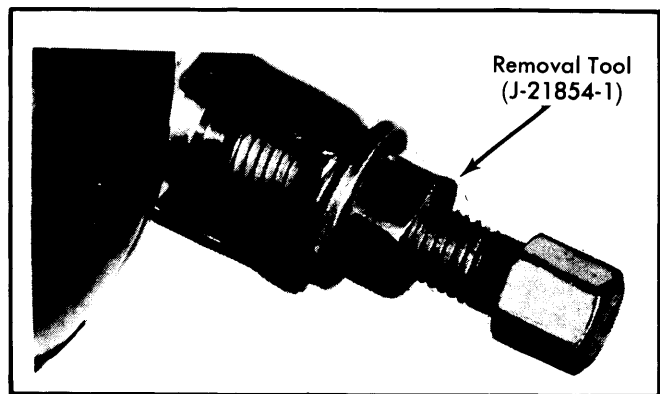

Fig. 10 Removing Tilt Pivot Pins
12) Place housing in center position. Using a puller (J-21854-1) remove tilt pivot pins. See Fig. 10. Lift tilt release lever to disengage lock shoes and remove housing. Remove both ball bearing assemblies from housing (if necessary).